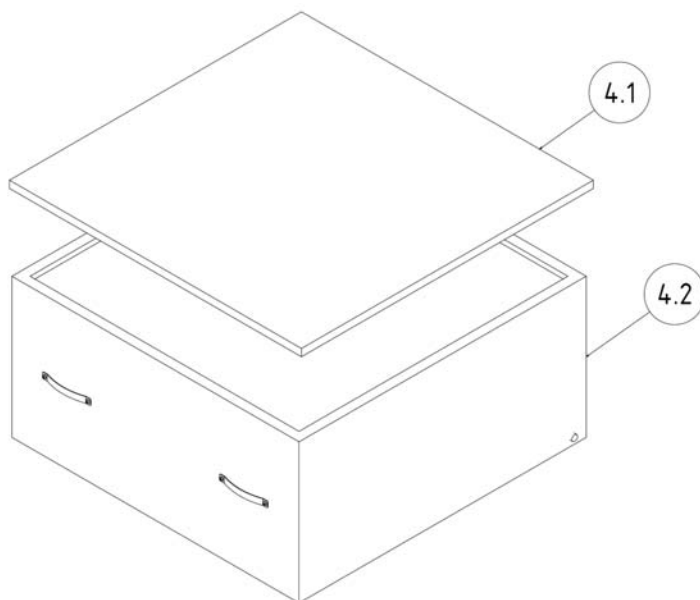

Figure 6, Filter structure
- Remove the plug-in pre-filter module (Fig. 6, item 4.1) out of the filter so as to avoid dust whirling and put it on a working bench.
- Lift the main filter (Fig. 6, pos. 4.2) at the front slightly using the lugs to release the seal from the mating surface and remove it from about two-thirds from the filter housing so that the filter pins remain lying on the side guide rails.